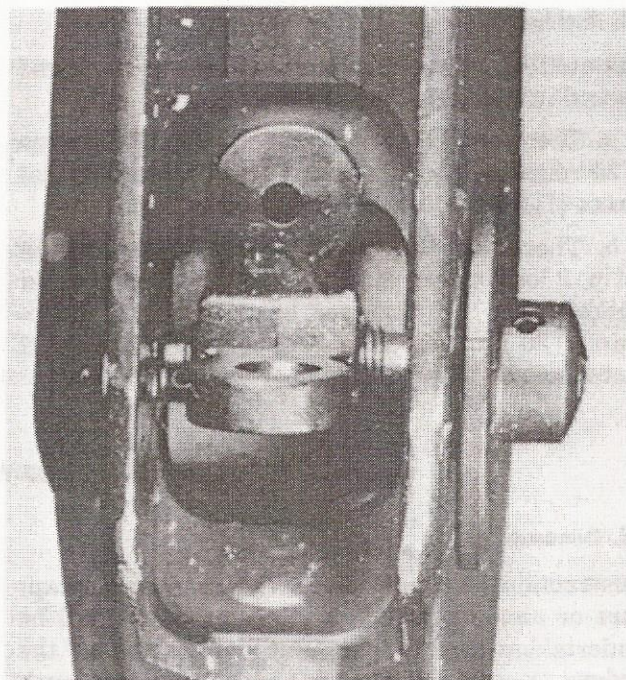
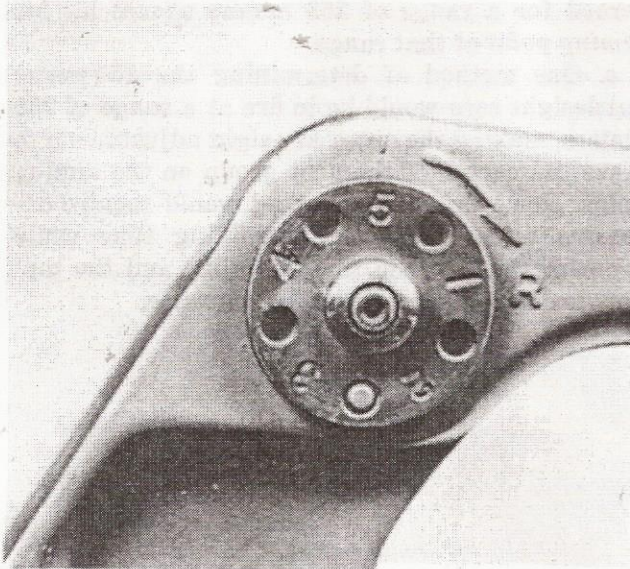

Figure 60. Rear sight aperture.
Figure 61. Windage drum.
a. The rear sight consists of two apertures (fig 60) and a windage drum with a spring loaded detent (fig 61). The aperture marked L is used for ranges beyond 300 meters, and the unmarked aperture for ranges from 0 to 300 meters. With a weapon battlesight zeroed for 250 meters, flip to the long-range aperture. The weapon is then zeroed for 290 to 375 meters. Adjustments for windage are made by pressing in on the spring loaded detent with a sharp instrument, or the tip of a cartridge, and rotating the windage drum in the desired direction of change.